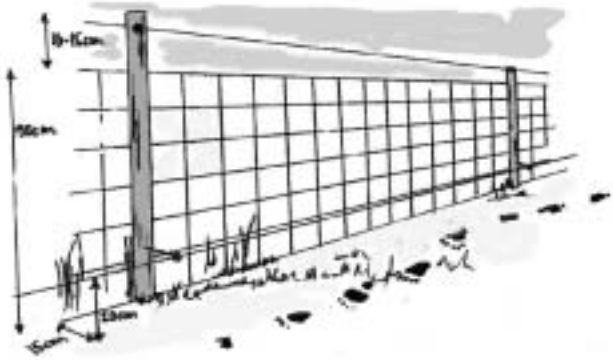

Fig. 1: Sheep net supplied with two electric wires – one on top of the net and one at the bottom.
- a sheep net supplied with two electric wires – one on top of the net and one at the bottom (see figure 1)